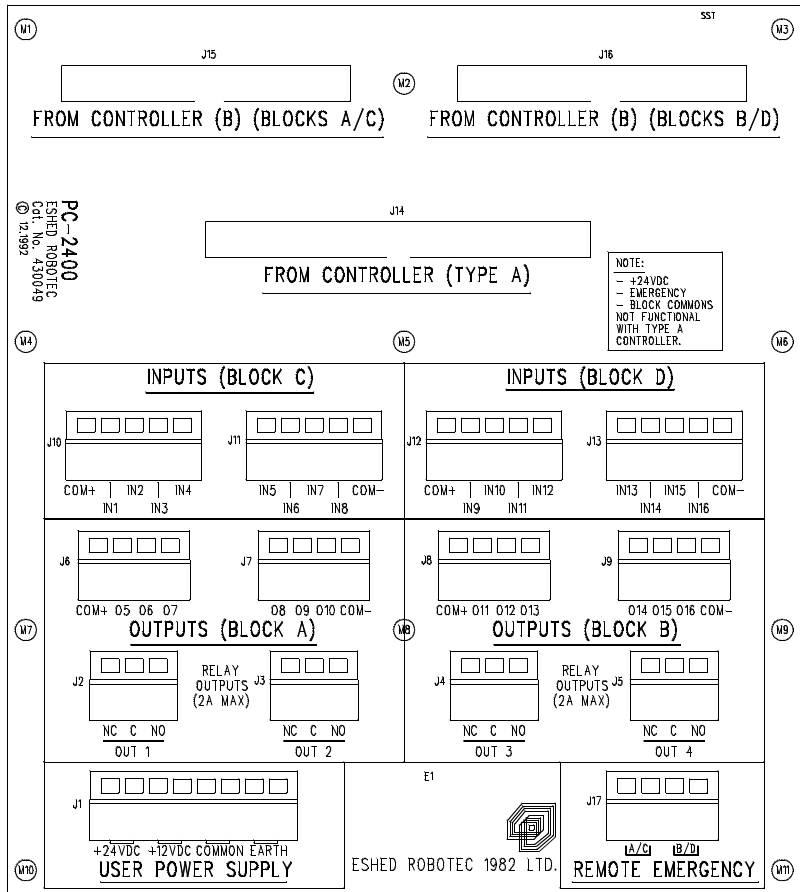

Figure 7: I/O Box Connectors
3. Connect the I/O box to the ACL controller, as follows. Refer to Figure 7.
Open the I/O Box and connect these terminals as follows. Refer to Figure 7.